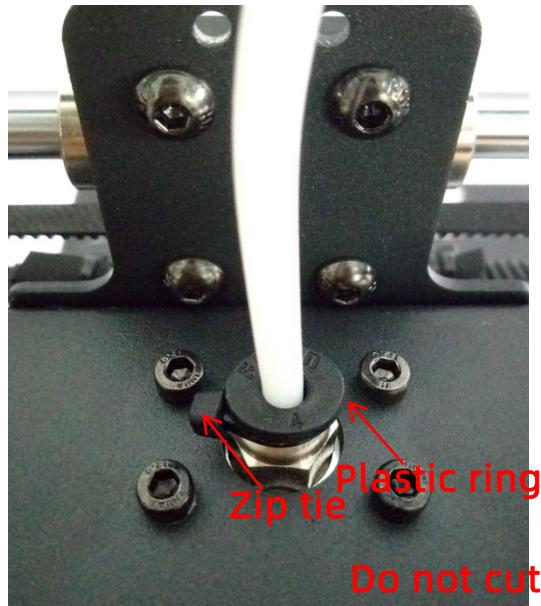

Figure 5
(3) Fig.5, customers may notice there is a ring of zip tie attached just below the plastic ring of the quick connector. Do not cut it off. Only cut this zip tie when swapping or repairing the hotend.